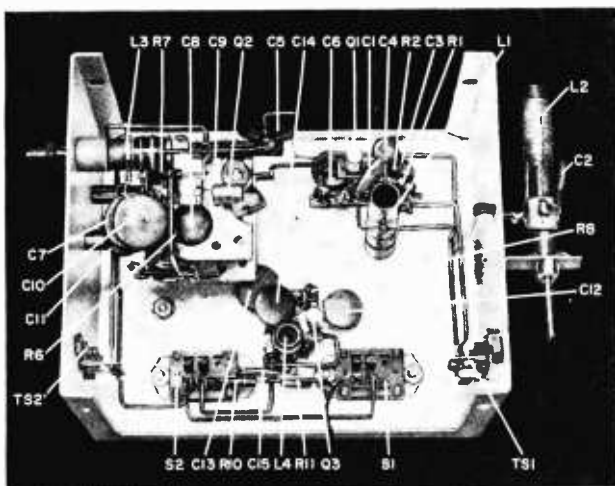

Fig. 3. All components associated with C9 and Q2 should be solidly mounted. For best results, keep leads as short as possible and dress wires neatly.
**Construction.** Prepare a 5" x 4" x 3" metal box as shown in Fig. 2. Follow the layout shown in Fig. 3. Pay particular attention to the mounting of variable capacitor C9 and the vernier dial. Use 1/2"-long metal spacers to position C9 securely in place.